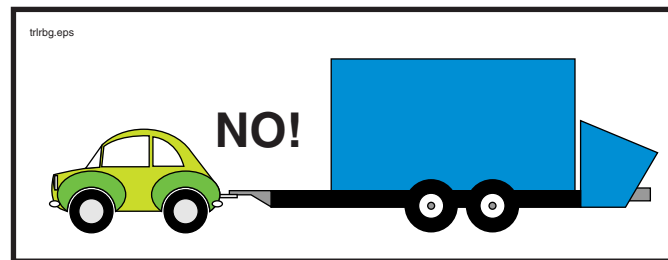

Figure 12
- 5.1 **⚠ WARNING** Be sure the towing vehicle is heavy enough and has enough horsepower and braking ability to tow the trailer. This is critical to maintaining control at highway speeds and to braking ability. If the trailer is heavier than the towing vehicle, braking distances will be greatly increased (Figure 12).